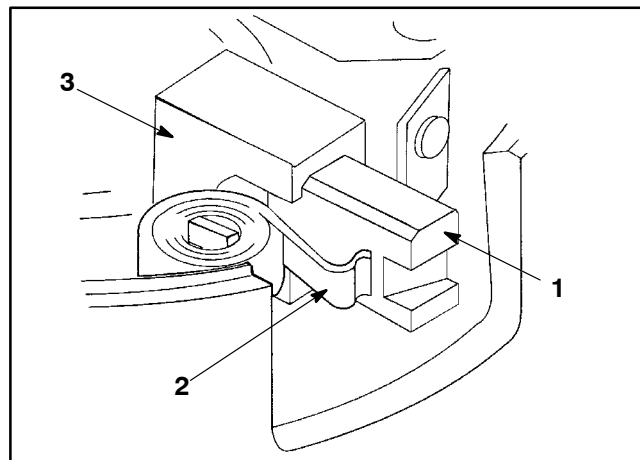

Figure 23
1. Remove brush covers from the commutator end cover. Lift brush springs from the notch at the end of the brushes while pulling the brushes out. Allow springs to hold brushes out from the center (Fig. 23).
8. Lift brush springs from the notch at the end of the brushes while pulling the brushes out. Allow springs to hold brushes out from the center (Fig. 23).
- H. Lift brush springs from the notch at the end of the brushes while pulling the brushes out. Allow springs to hold brushes out from the center (Fig. 23).